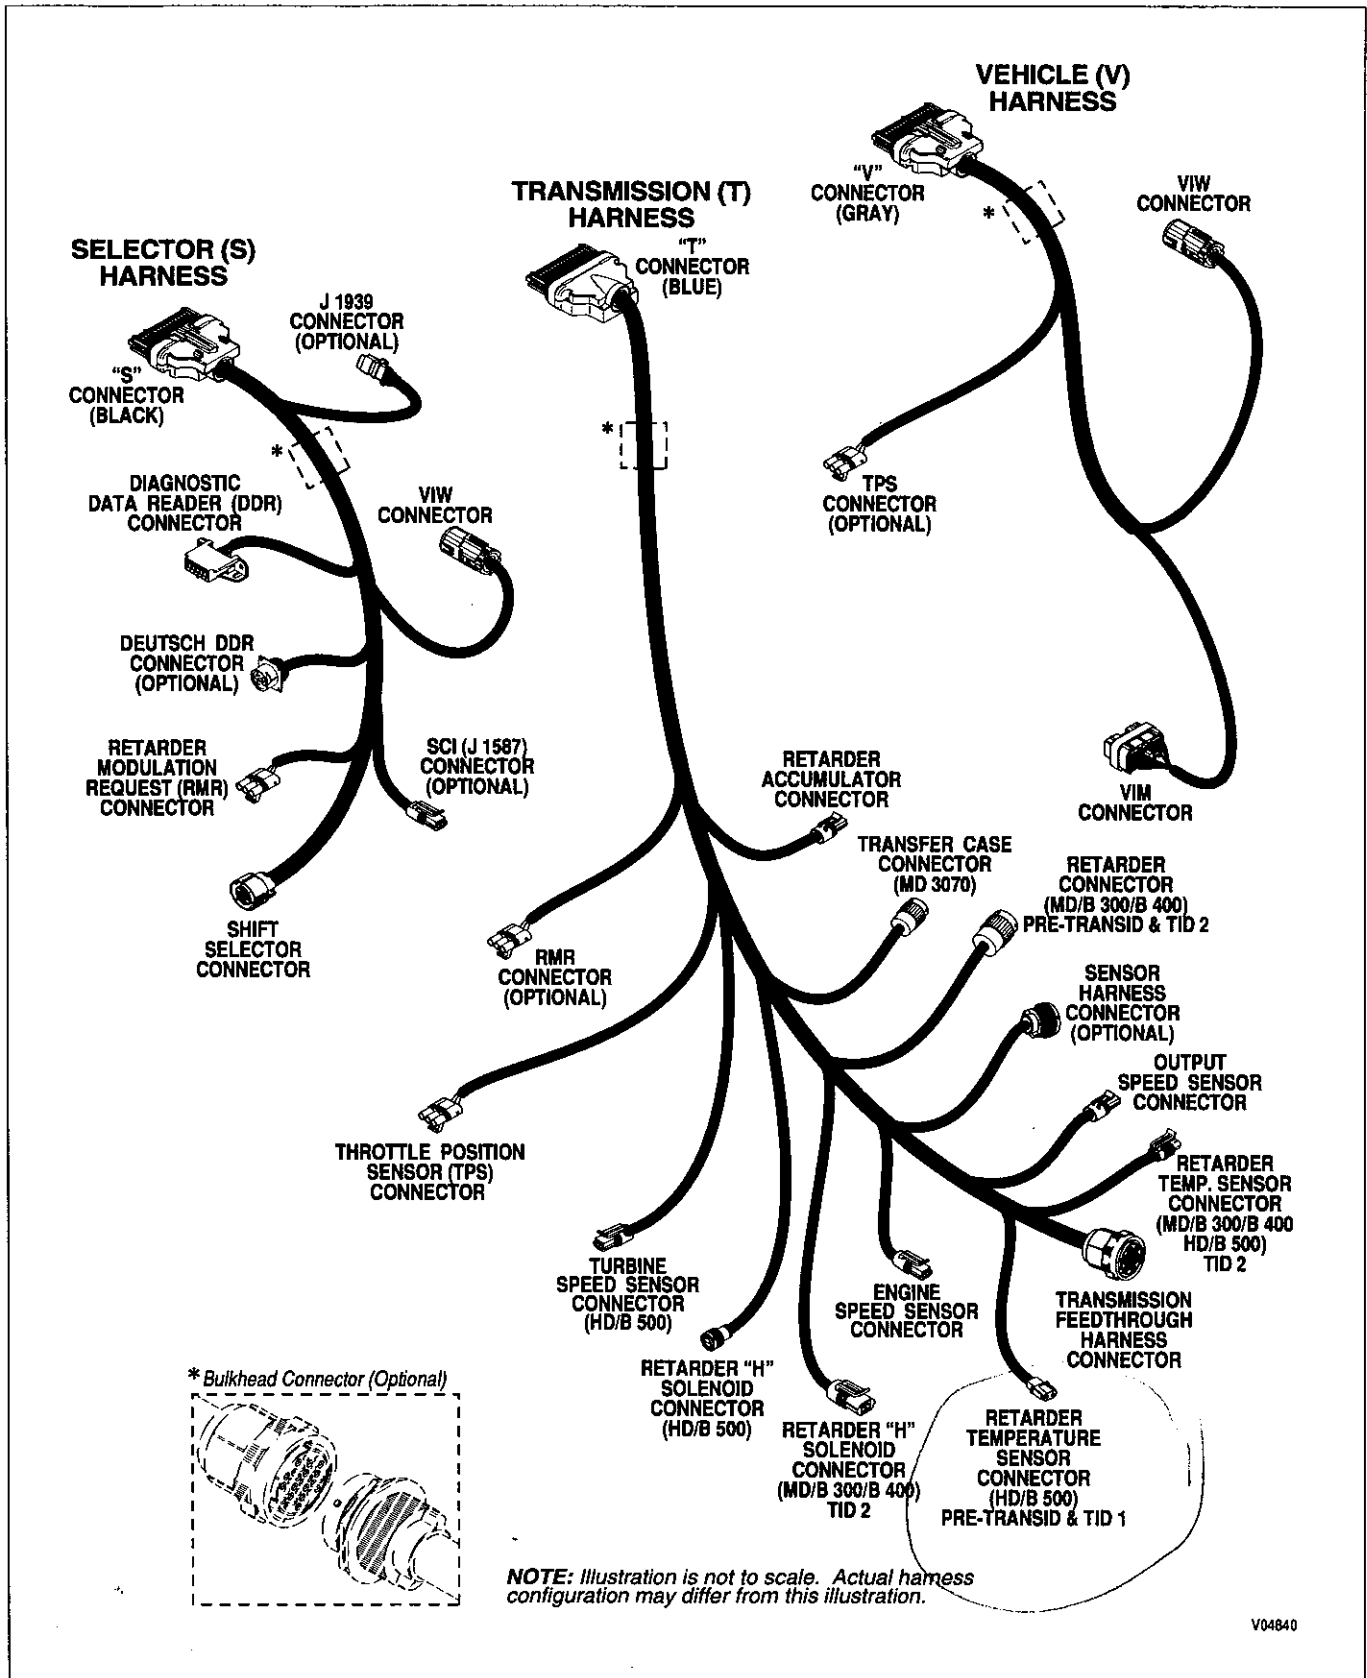

Figure 1-9. WTEC III External Wiring Harnesses
A. External Wiring Harness (*Figure 1-9*)